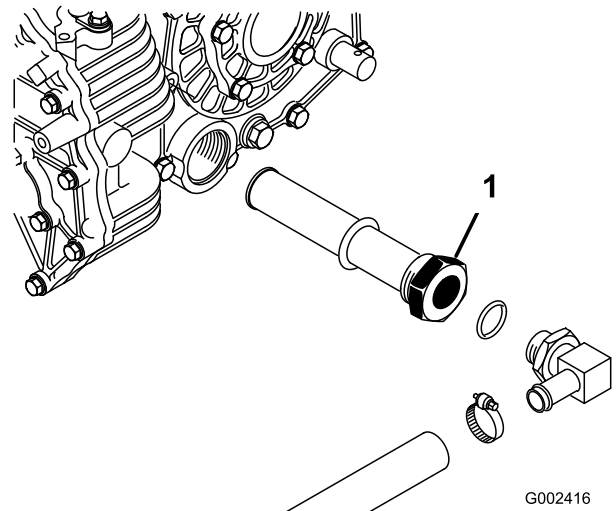

Figure 78
2. Remove drain plug (Figure 78) from side of reservoir and let hydraulic fluid flow into drain pan.